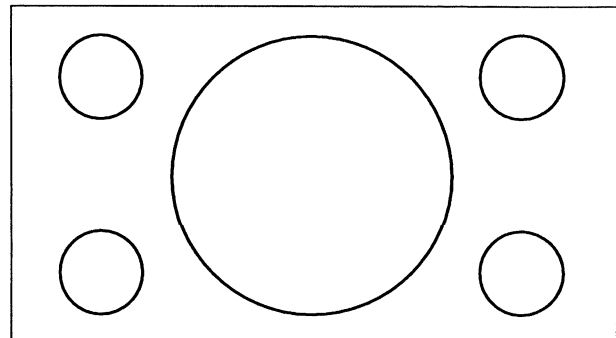

Fig. 2 Circle; 625 / 525 Lines; Aspect Ratio 16:9
– Vertical direction	see fig. 2
– Line a	see fig. 2